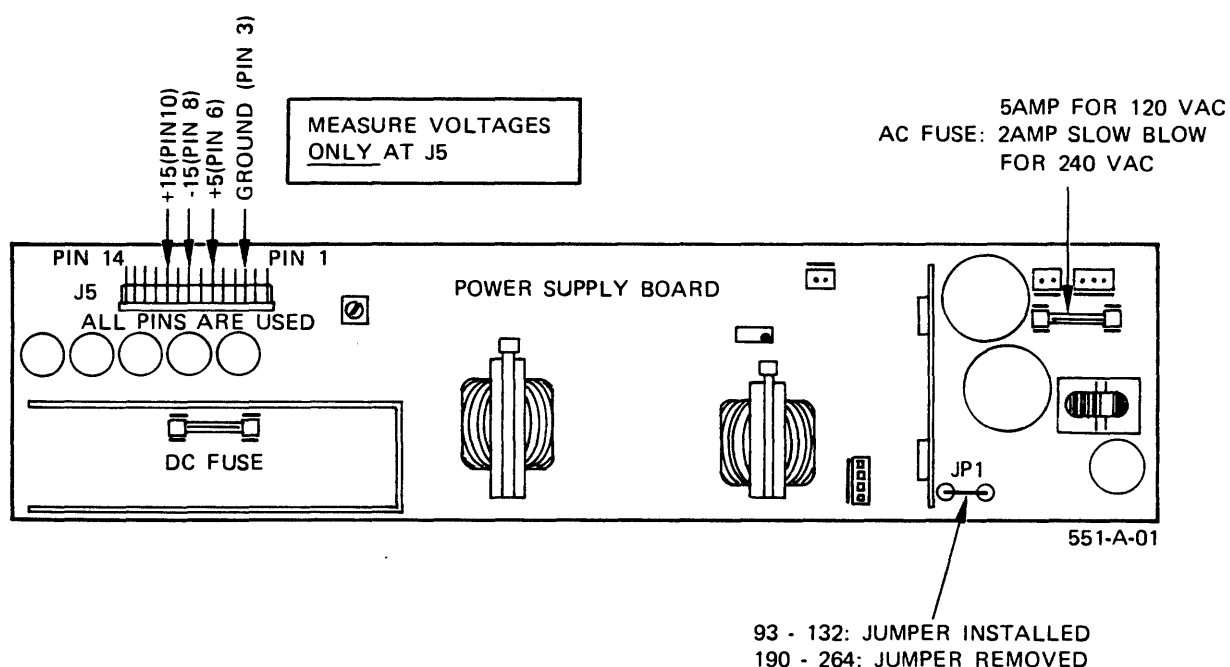

Figure 1-2. Changing the AC Input Voltage
5. On the power supply board, jumper JP-1 (a piece of #18 gauge wire) is installed for 93-132 Vac operation and removed for 190-264 Vac operation. Figure 1-2 illustrates the location of the jumper.